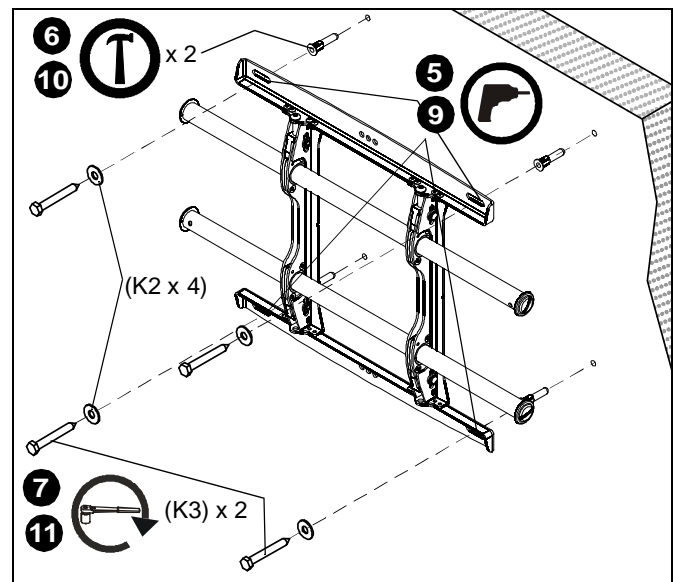

Figure 4
4. Using a level, mark the wall through both upper mounting slots. (See Figure 4)
8. Mark the attachment points for the lower mounting slots. (See Figure 4)
9. Drill one pilot hole at each marking for lower mounting holes. (See Figure 4)
11. Use two 5/16 x 2-1/2" lag bolts (K3) and two 5/16" flat washers (K2) to attach the mount to the wall through the lower mounting holes. (See Figure 4)